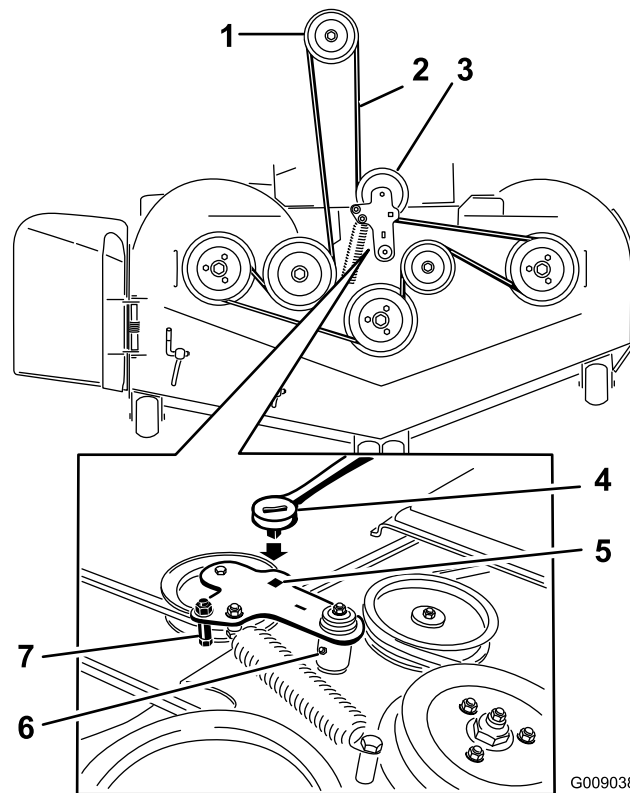

Figure 56
5. Use a ratchet in the square hole in the idler arm to remove tension on the idler spring (Figure 56).
7. Remove the belt guide on the spring loaded idler arm shown in Figure 56.
9. Install the new belt around the mower pulleys and the clutch pulley under the engine (Figure 56).
10. Install the belt guide on the idler arm shown in Figure 56.
11. Using the ratchet in the square hole, install the idler spring (Figure 56).